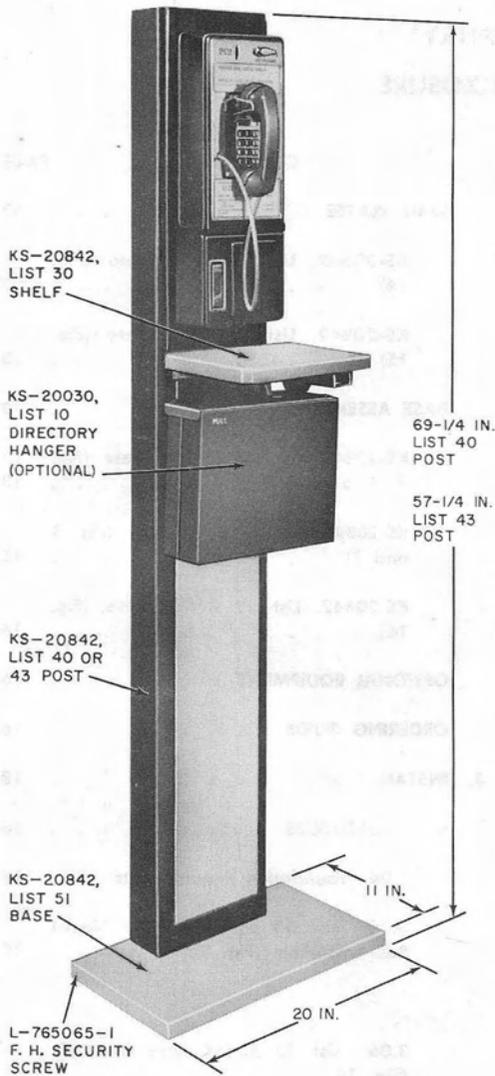

Fig. 1—Sentry Mounting With List 30 Shelf (List 2 or 37 Arrangement)
**1.04** A variety of enclosures is available and can be provided for walk-up, drive-up, or walk-in service (Fig. 1 through 10).
**KS-20842, List 30 Shelf (Fig. 1)**